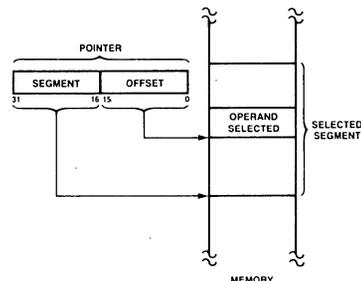

FIGURE 4. TWO COMPONENT ADDRESS
Memory is organized as sets of variable-length segments. Each segment is a linear contiguous sequence of up to 64K (216) 8-bit bytes. Memory is addressed using a two-component address (a pointer) that consists of a 16-bit segment selector and a 16-bit offset. The segment selector indicates the desired segment in memory. The offset component indicates the desired byte address within the segment. (See Figure 4).